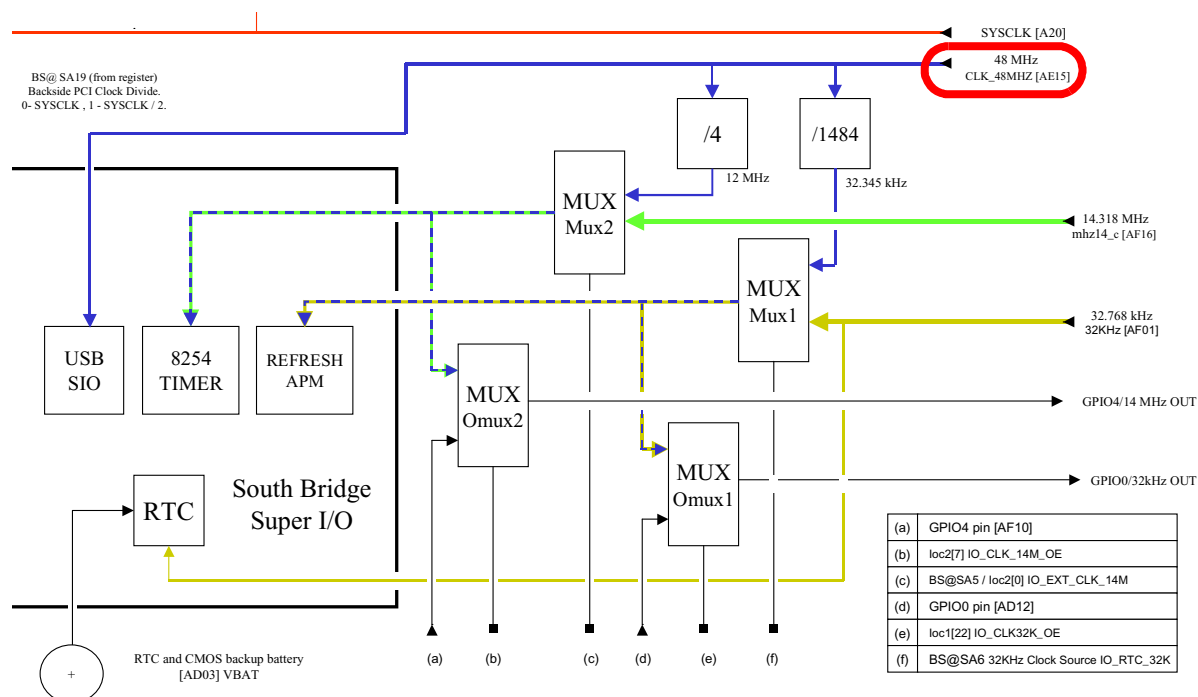

Figure 5-13 USB\_48MHz\_C [AE15] Clocking Control Circuitry
d. Get the 8254 Timer the USB Clock/4 or 12 MHz. See [Figure 5-13 "USB\\_48MHz\\_C \[AE15\] Clocking Control Circuitry" on page 447](#).